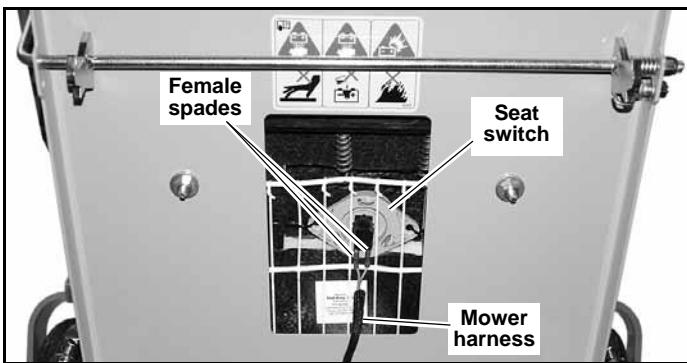

Figure 4-21
3. Raise the seat platform and disconnect the mower harness from the seat switch. Bypass the seat switch by connecting the two mower harness female spades together. Figure 4-21
13. **IMPORTANT:** With the engine off, disconnect the two female spade connectors from each other (from step #3) and reconnect them to the seat switch. This must be completed so that the safety circuit is functioning properly. Figure 4-21